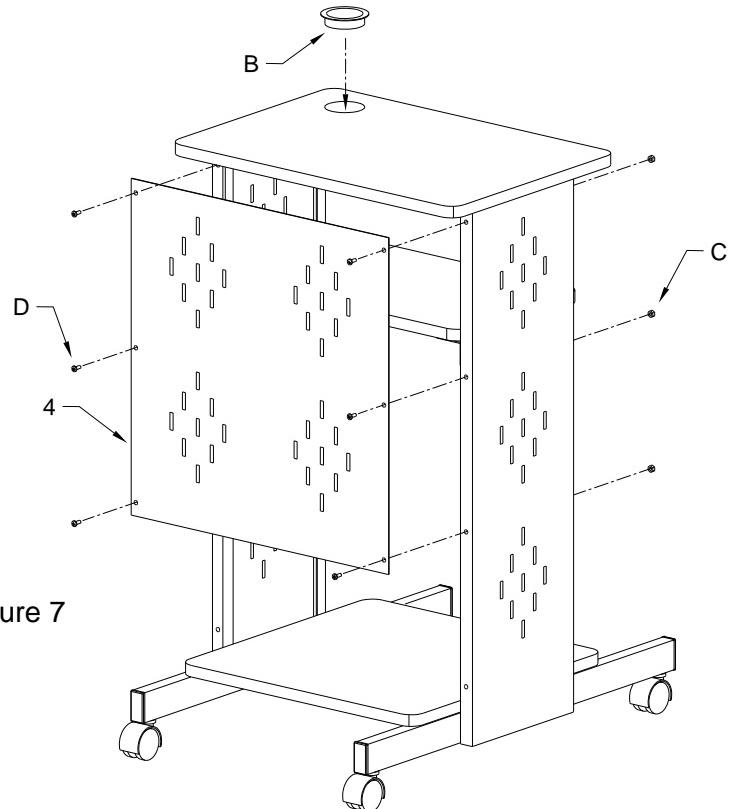

Figure 7
8. Attach the Modesty Panel to the front of the Sides. See Figure 7. Insert the Grommet into the hole of the Top Shelf.